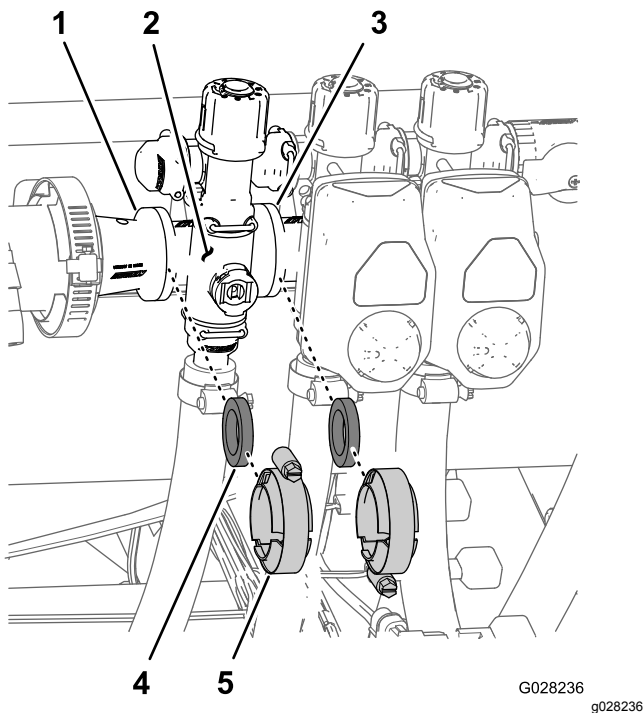

Figure 54
1. Remove clamps and gaskets that secure the manifold for the section valve (Figure 54) to the adjacent section valve (if left section valve, and the reducer coupling).